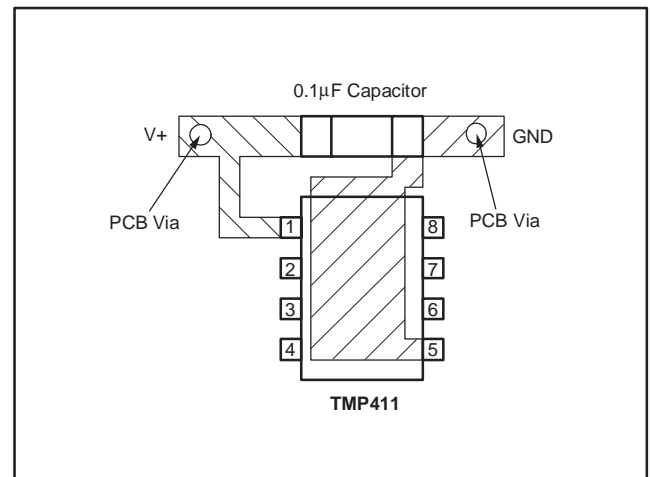

Figure 20. Suggested Bypass Capacitor Placement
4. Use a $0.1\mu\text{F}$ local bypass capacitor directly between the V+ and GND of the TMP411, as shown in Figure 20. Minimize filter capacitance between D+ and D– to 1000pF or less for optimum measurement performance. This capacitance includes any cable capacitance between the remote temperature sensor and TMP411.